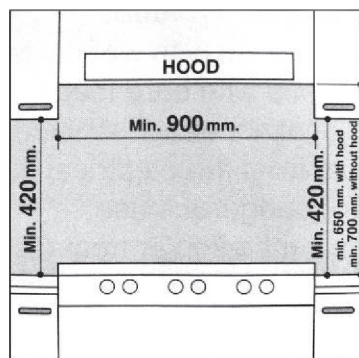

Fig.5
- c) The cabinets should be positioned near to the hood at a height of 420 mm at least (Fig. 5).